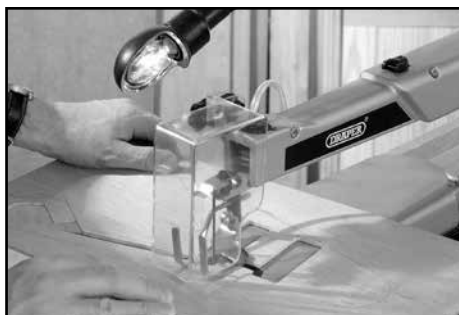

FIG. 4
9.3 MAKING EXTERNAL SCROLL CUTS – FIG. 4